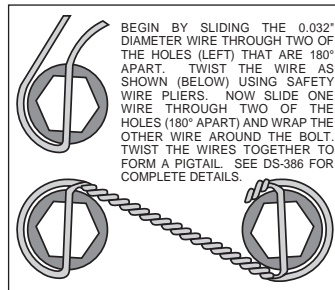

Figure 5. Safety Wire Diagram
- Orient the rotor (4) and the hat (3) as shown in Figure 1 and Photo 4. Attach rotor to hat using bolts (6) and washers (5). Using an alternating sequence, apply red *Loctite*® 271 to the threads, and torque to 155 **in-lbs**. For an added measure of security, the bolts may be safety wired using standard 0.032 inch diameter stainless steel safety wire as shown in Figure 5. Please refer to Wilwood's data sheet DS-386 (available at [www.wilwood.com/Pdf/DataSheets/ds386.pdf](http://www.wilwood.com/Pdf/DataSheets/ds386.pdf)) for complete safety wire installation instructions.